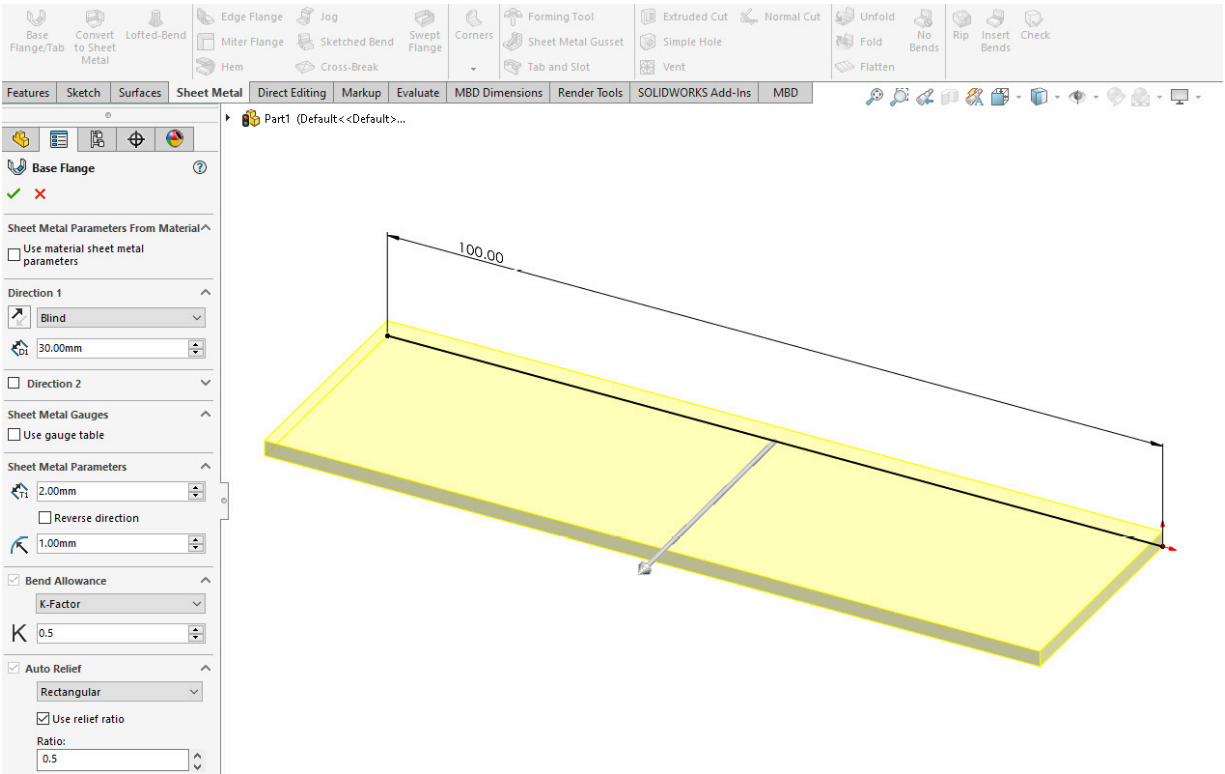

Figure 1.20: Creating a Base Flange
5. The width of the **Base Flange** can be set using the **Direction 1** (and **Direction 2**, if required) options in the **Property Manager** on the left of the screen. The **Sheet Metal** properties can also be set at this stage (see *Figure 1.20*).